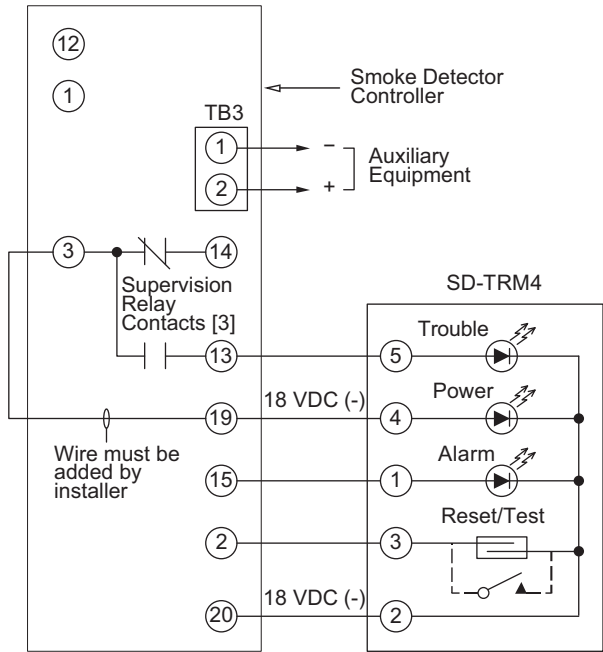

Fig. 60 — Remote Test/Reset Station Connections
The test/reset station dirty sensor test checks the test/reset station’s ability to initiate a sensor dirty test and indicate the results. It must be wired to the controller as shown in Fig. 60 and configured to operate the controller’s supervision relay. For more information, see “Dirty Sensor Test” on page 39.
1. Verify that the remote test/station is wired as shown in Fig. 60. Repair or replace loose or missing wiring.